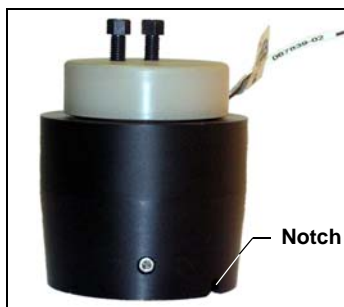

Figure G-5. Heated Dilution Vessel
2. Align the notch on the rear of the heated dilution vessel (see Figure G-5) with the pin on the dilution vessel holder on the SP panel.